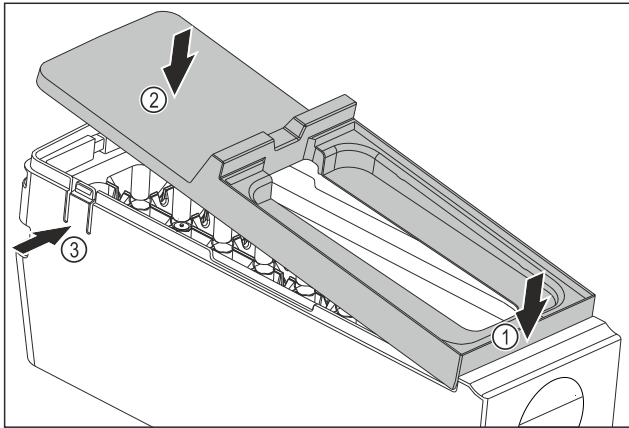

Fig. 124
- ▶ Installing the EasyTwist-Ice body cover: Place the cover on the front. Fig. 124 (1)
- ▶ Lower the cover at the rear. Fig. 124 (2)
- ▶ The cover locks into both tabs Fig. 124 (3) audibly.